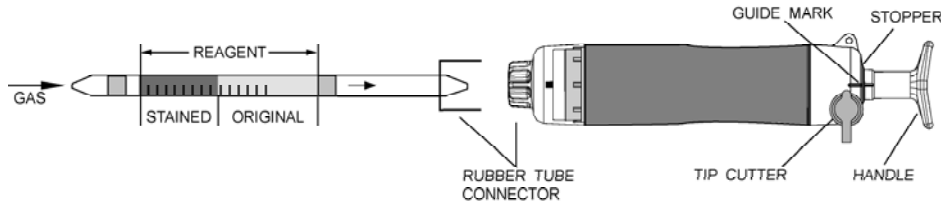

Fig.1
- ② Insert the detector tube into aspirating pump securely as shown in Fig.1. (Arrow mark shall point to the pump.)
- ③ Align the guide marks on the shaft and stopper of the aspirating pump.
- ④ Pull the pump handle at full stroke until it locks and wait for 4 minutes or until the completion of sampling is confirmed with the flow indicator of the pump (See descriptions about the flow indicator in the instructions of the pump) .
- ⑤ On completion of sampling, read the scale at the maximum point of the stained layer.